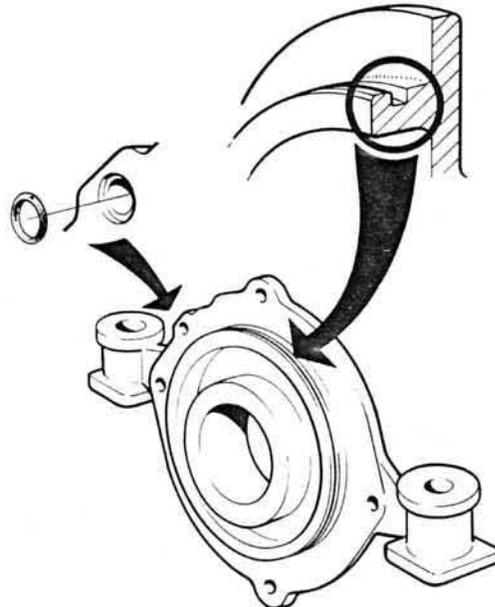

Fig. 35. Crankcase and bearing cover sealing.
8. Clean the bearing housing and fit new seal rings in the bearing housing slots, see Fig. 35.